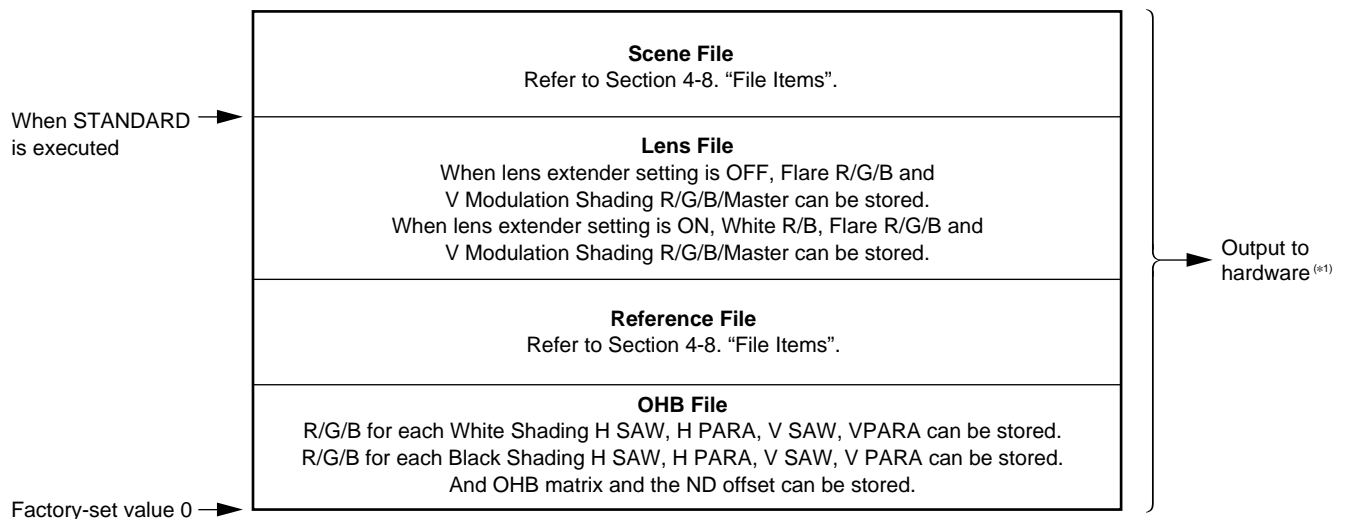
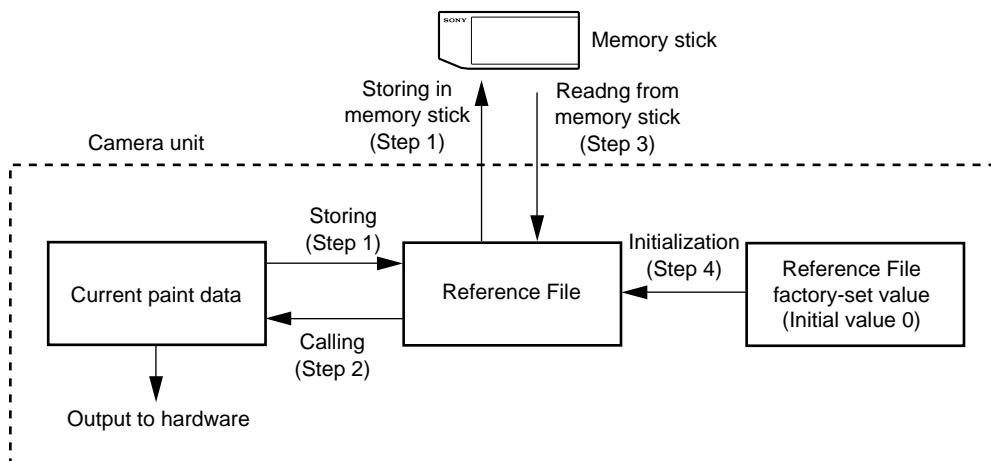

Fig. 4-1. Structure of Paint Related Files
Fig. 4-4. Operating Procedure for Reference Files
### Storing Using the Setup Menu (Refer to step 1 of Fig.4-4.)
### Storing by MSU (Refer to step 1 of Fig.4-4.)
### Calling Using the Setup Menu (Refer to step 2 of Fig. 4-4, Fig. 4-1.)
### Calling with MSU (Refer to step 2 of Fig. 4-4.)
**Reading the Reference File from the Memory Stick (Refer to step 3 of Fig. 4-4.)**
**Storing the Reference File to the Memory Stick (Refer to step 1 of Fig. 4-4.)**
**Initializing All File Items Using the Setup Menu (Refer to step 4 of Fig. 4-4.)**
### Initializing Only Specified Items Using the Setup Menu (Refer to step 4 of Fig. 4-4.)